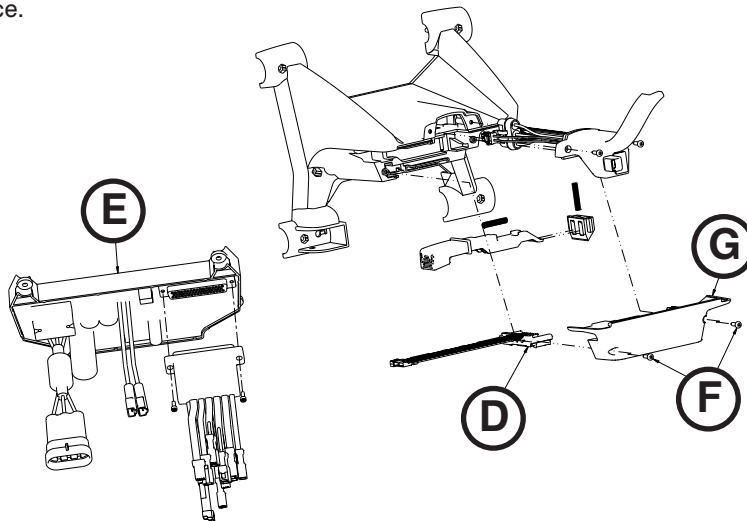

Figure 64
6. Unplug the black and red wires that connect the cot connector cable assembly (D) to the control board (E) (Figure 64).
7. Using a T20 Torx driver, remove the two delta screws (F) from the bottom plate of the foot end enclosure (G) to remove the enclosure (Figure 64). Save all parts for reinstallation.